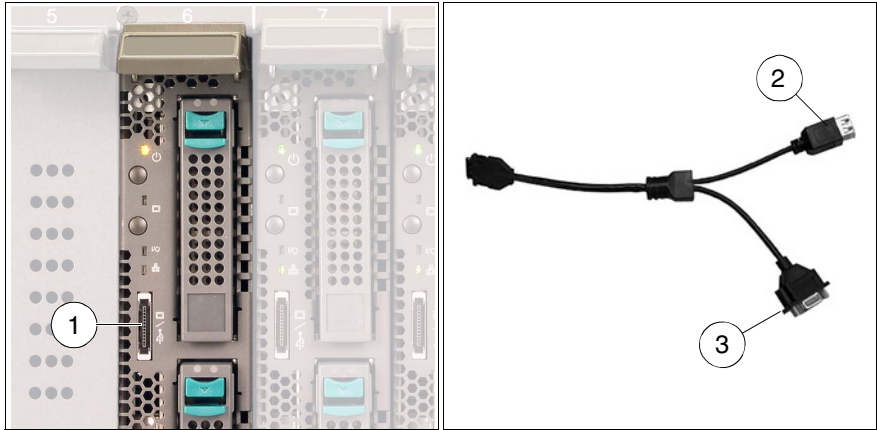

Figure 8: USB/VGA connection on the BX620 S3 Server-Blade and special cable
| <p>7</p>   | <p>USB/VGA connector</p> <p>Connector for adapter cable with two USB ports for external devices (e.g. floppy disk drive, CD/DVD drive or hard disk drive, mouse or keyboard) and a VGA port.</p> <p>A special cable is required! (See figure 8 on page 31)</p> |
- ▶ Connect the breakout cable to the USB/VGA port on the front of the relevant server blade (figure 8 on page 31).
- ▶ Connect the data cable of the CD-ROM drive and, if required, also the floppy disk drive to the USB ports of the breakout cable (see figure 8 on page 31).